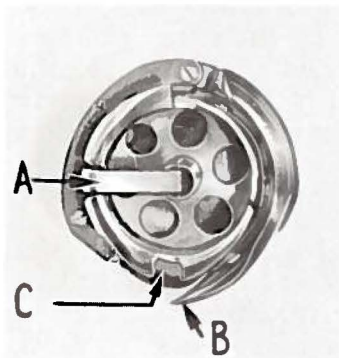
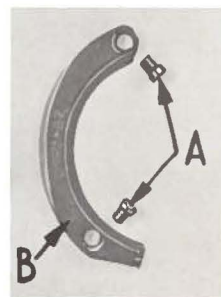
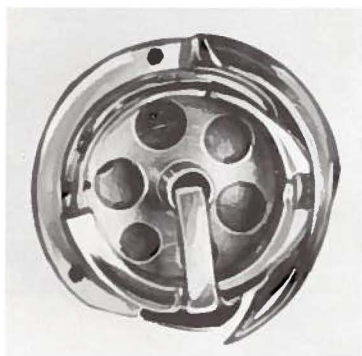

Fig. 4
Fig. 5
Fig. 6
Should the thread become caught or tangled in back of the bobbin case, causing the machine to lock, it is necessary to remove the bobbin case, inasmuch as the bobbin case latch (A, Fig. 4), which holds the bobbin in position, cannot be raised to release the bobbin and machine will not operate. Under no circumstances use force to open the bobbin case latch; by so doing the latch or spring will very likely become broken, which means the expense of a new bobbin case.
See that the point of the hook (B) is at its lowest point as in Fig. 4. Then remove both gib screws (A, Fig. 5) which hold the gib (B) in position on the hook. After removing gib, turn bobbin case to the left one-quarter turn (Fig. 6). This releases the bobbin case from the hook.
To insert bobbin case in hook see that the latch is in line with the point of the hook (Fig. 6). Replace hook gib and securely tighten screws. Turn bobbin case so that the groove (C, Fig. 4) is at the bottom and fits into the bobbin case retainer notch, as described in paragraph under "Removing and Replacing Presser Feet".